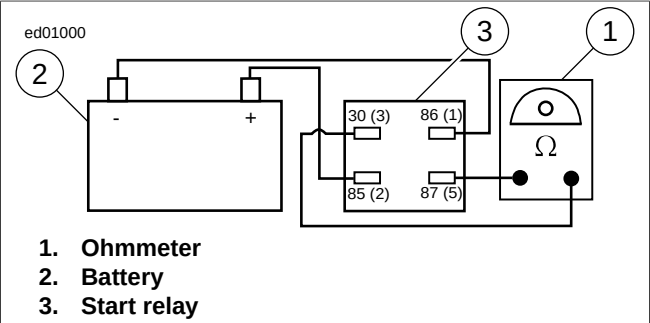
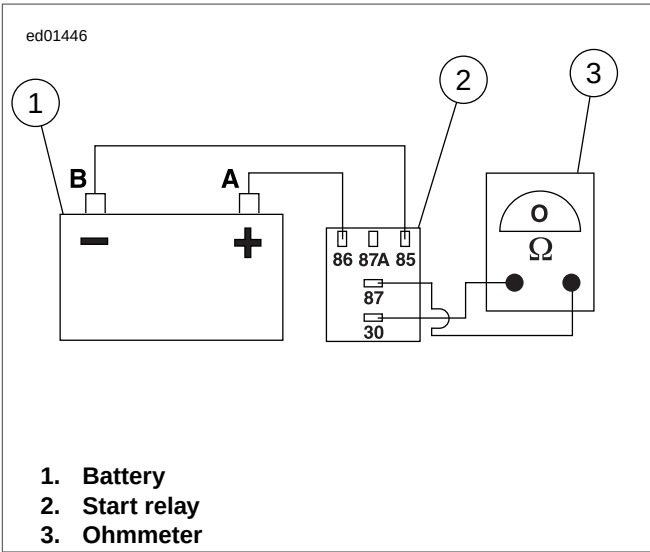

Figure 1-46. Four Terminal Relay Test
Figure 1-47. Five Terminal Relay Test
- See Figure 1-46 and Figure 1-47 to energize the relay. Connect relay terminal 85 to the negative battery terminal and relay terminal 86 to the positive battery terminal.